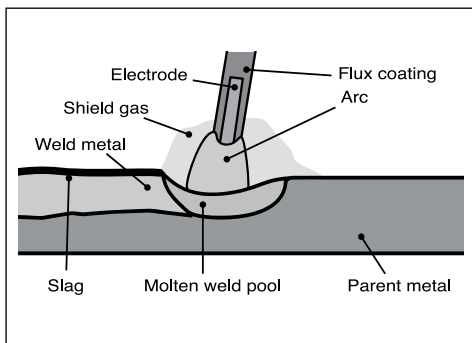

Fig. 12
8.6 ARC Welding, Filler Rod (Electrode) Selection – Fig. 12